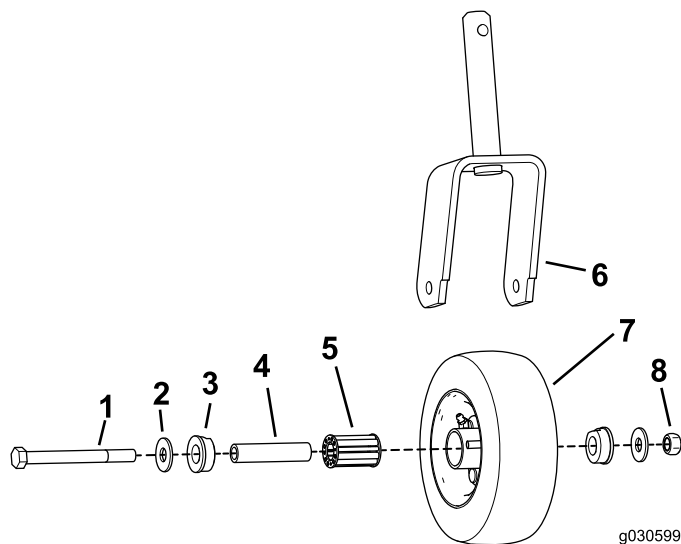

Figure 35
5. Assemble the caster wheel by inserting the roller bearing, the bearing retainers, and the spanner bushing (Figure 35).